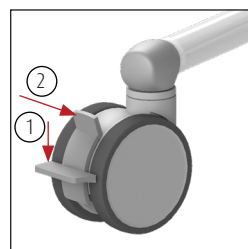

Figure 1. Swivel wheel.
- The Reflex XL/Reflex XXL can be put on the brake by kicking the grey lip (1) on the wheel, downwards (See figure 1).
- To remove the Reflex XL/Reflex XXL from the brake, lift the same lip of the wheel by pushing on the top of the lip (2) (See figure 1).